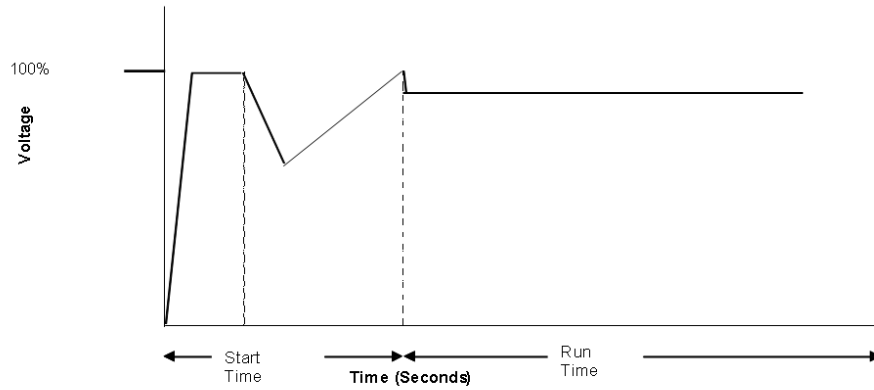

Figure 3. – Kick Start
(3) Kick-Start
- This soft start mode is similar to the timed soft start mode, but provides an additional boost at startup to help break away large loads (See Figure 3).